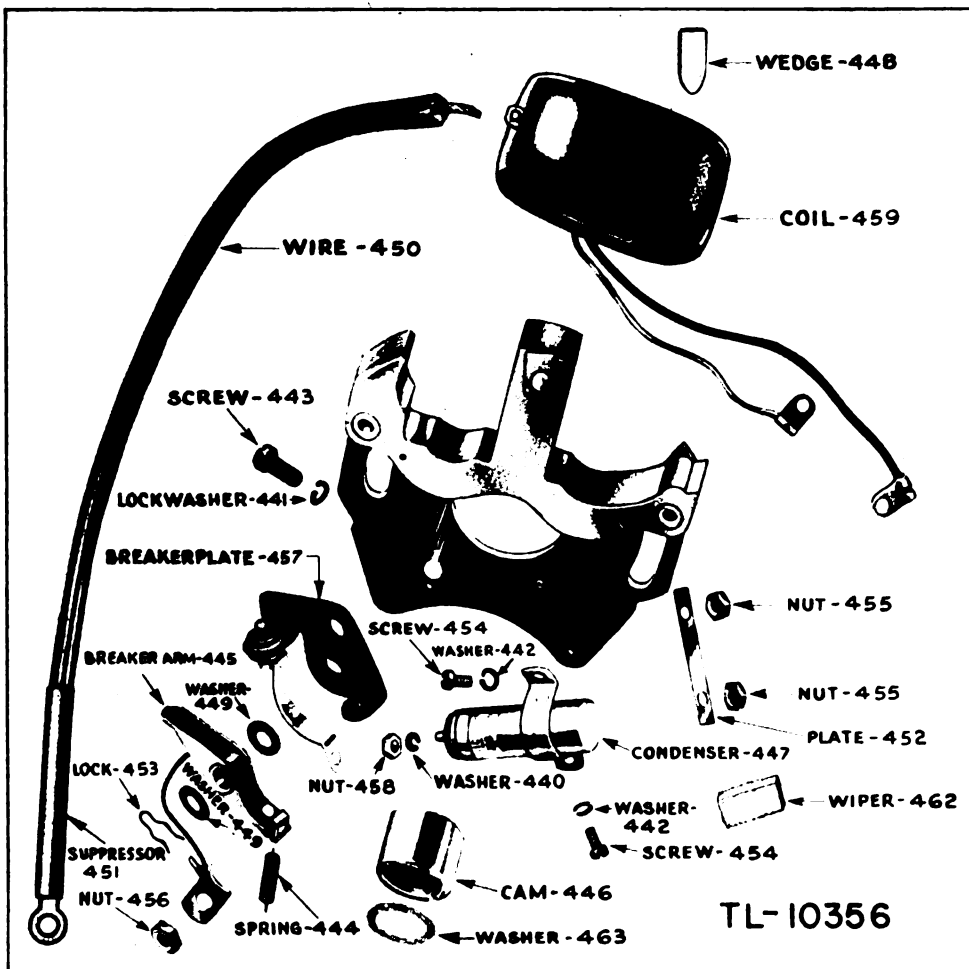

Figure 65—Magneto Stator Plate Assembly
c. To Reset Points.—If points need resetting, bend down contact plate lock 453 (Fig. 65), loosen locknut 456A which holds breaker plate 457 in position, and move plate up or down to obtain proper point opening. After setting is accomplished, tighten locknut 456 and bend ear of plate lock against flat of locknut so it cannot become loose. The fixed contact on plate 457 must never be loosened or breaker arm 445 bent to provide adjustment.
around bracket so cable cannot work out (Fig. 65). Do not solder cable to coil.